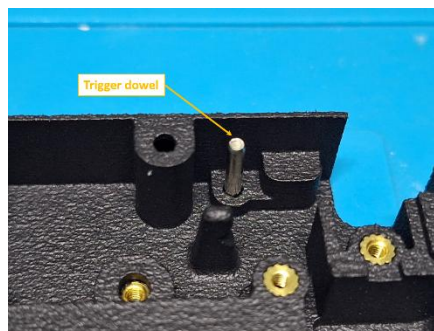

Figure 23: Trigger dowel installed in rear shell
5. Insert the two trigger dowels into the corresponding holes in the rear shell as shown in Figure 23.